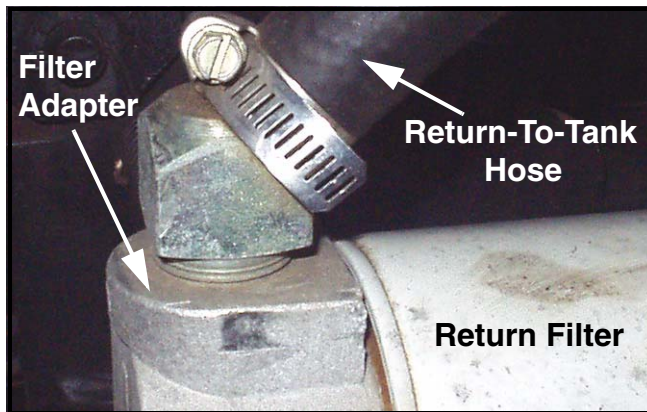

FIGURE 3
12. Place an oil drain pan below the return-to-tank hose connection at the filter adapter. Loosen the hose clamp and remove the return-to-tank hose from the filter adapter fitting, place the hose end into the oil drain pan to drain. Then place the end of the return-to-tank hose into the 5 gal. bucket. See Figure 3.